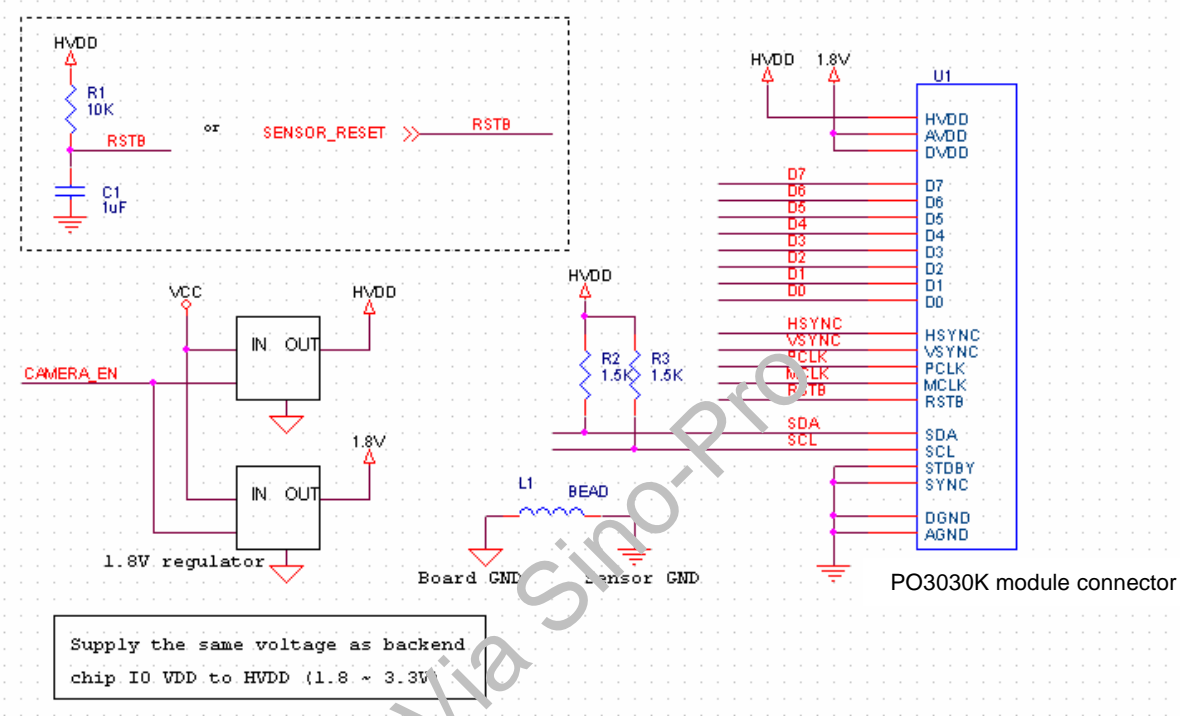

Figure 1. PO3030xK module typical connection diagram
It is important that care be given to the PC board layout to reduce power noise. Figure 1 shows a recommended connection diagram for the PO3030K.
- ⇒ *Sensor reset can be controlled by power cut-off by connecting RSTB pin to HVDD not other VDD using 10K resistor and 1uF capacitor as shown in above Figure 1.*